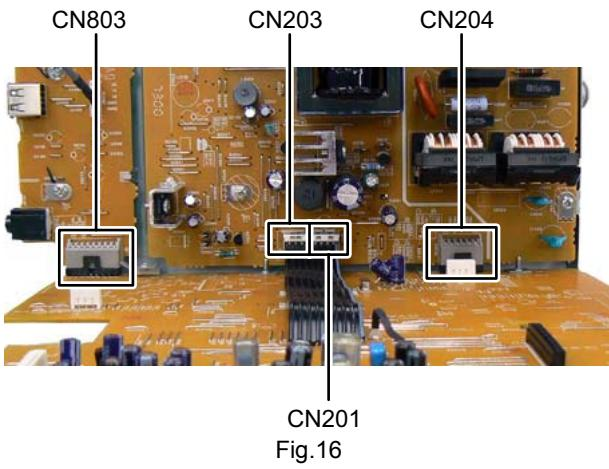

Fig.16
- (2) Disconnect the flat cable wire from Micom board connected to connector CN201 and CN203 of the Power board. (See Fig.16)
- (3) Disconnect the board to board connector connected to connector CN204 of the Power board. (See Fig.16)
- (4) Disconnect the board to board connector connected to connector CN803 of the USB jack board. (See Fig.16)